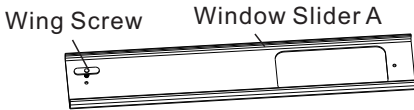

Figure 1
1. Insert the wing screw into the window slider A as the figure 1 shows.